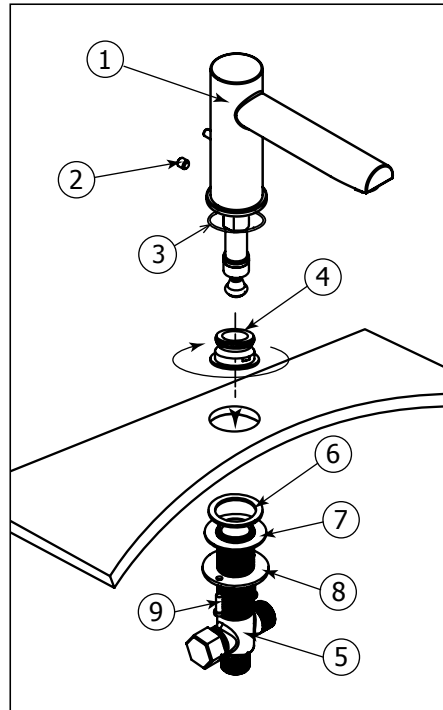

Fig.3
Tighten the bottom nut (8) with metal (7) and rubber (6) washers from beneath the deck. Secure the shank with supplied 2 screws (9). (Fig.3).